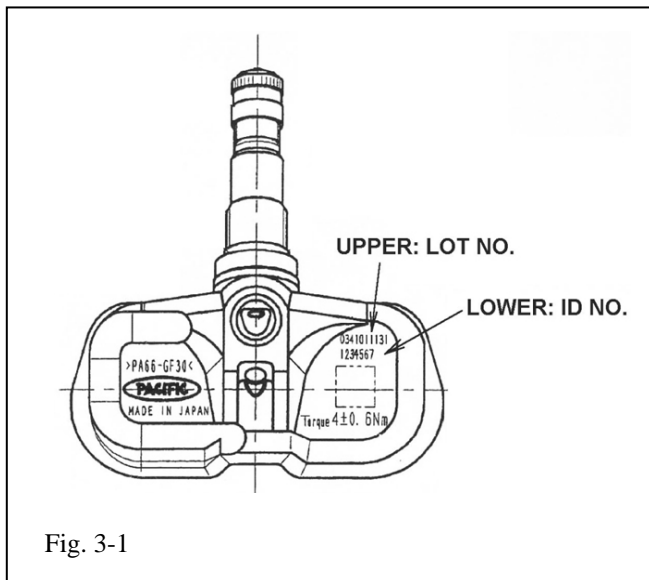

Fig. 3-1
- (e) Record TPMS Transmitter ID No. and verify that the number is copied accurately (for “Styled” steel wheel)(Fig. 3-1)